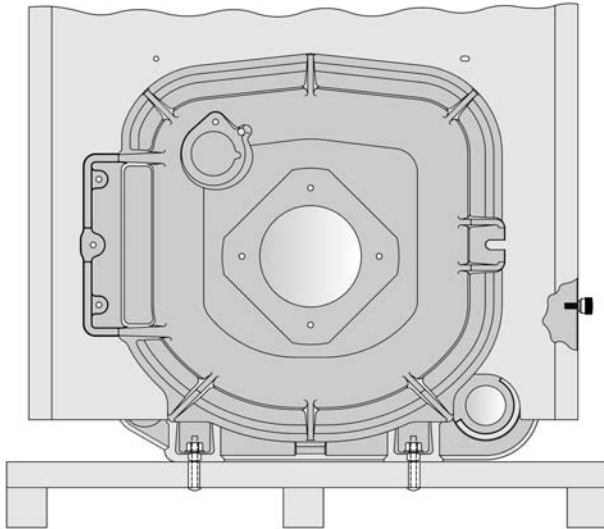

Figure 11: Packaged Boiler Removal from Skid
1. Boiler is secured to base with 4 bolts, 2 in front and 2 in rear of shipping skid, see Figure 11. Remove all bolts.